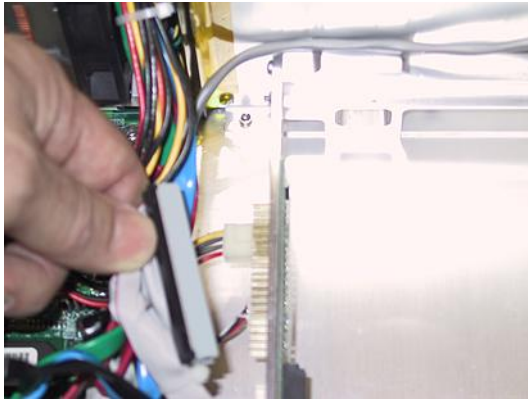

Figure 4-75
- 3) Remove the ATA cable (observing where the red stripe is for future reference) as illustrated in Figure 4-75.